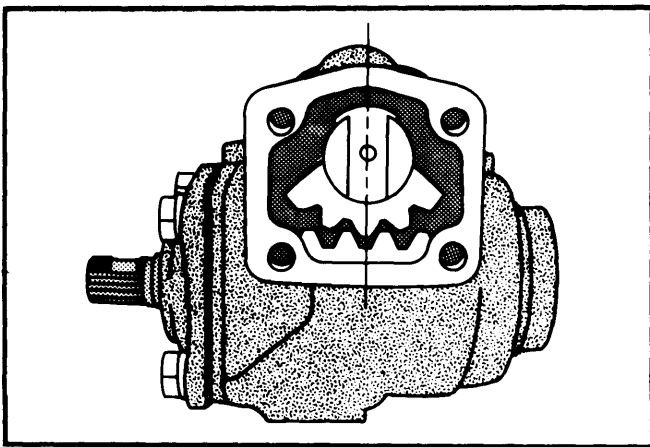

Fig. 3 Aligning Sector Gear & Rack
2) Insert sector shaft into gear housing, using care not to damage oil seal. Ensure center of sector gear is aligned with center of worm gear. See Fig. 3. Insert adjusting screw into slot in end of sector shaft. Check end clearance as illustrated and add appropriate shim to bring clearance within 0-.004" (0-.1 mm). Place side cover and gasket over adjusting screw and turn adjusting screw until cover is in place, install attaching bolts.